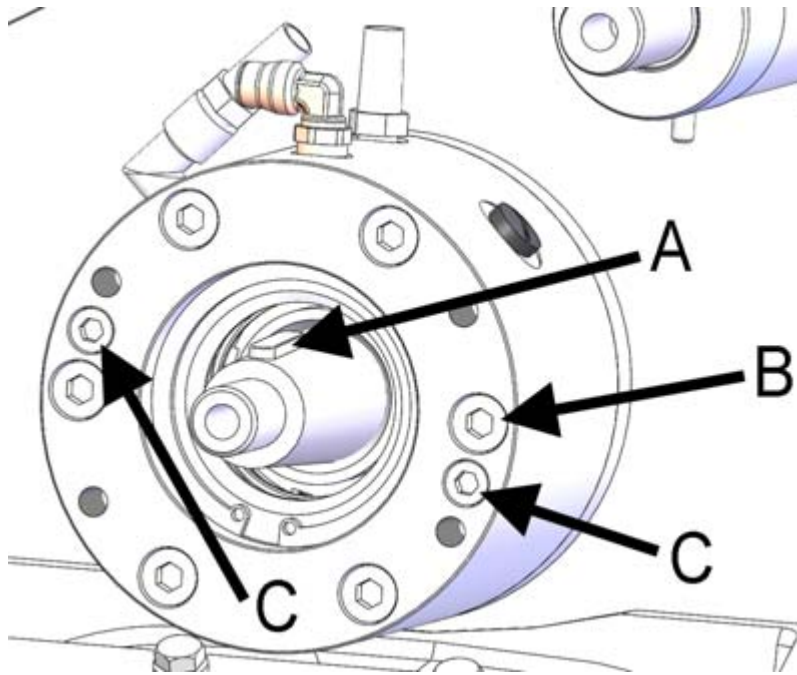

Figure 5. Removing the bearing housing
4. Remove the wedge from the shaft (figure 5, point A).
5. Open the bearing housing screws (6 in total, figure 5, point B).
Use the two M6 holes, from which the screws must first be removed (figure 5, point C). Replace the screws with longer screws or threaded rods, and tighten them until they bottom out. Tighten them evenly until the bearing housing comes loose from the hull.